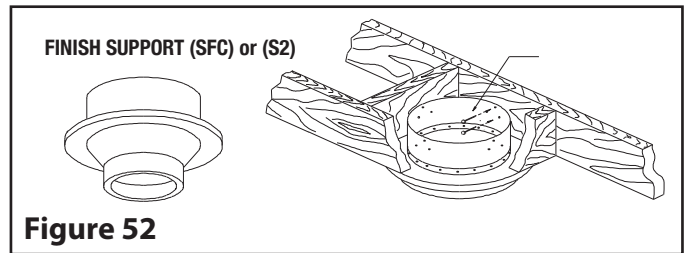

Figure 52
Step 2. From below push the support into the framed hole. Nail the support to the framed box using (12) 3" spiral nails or #8 x 1 1/2" wood screws (see Figure 52).